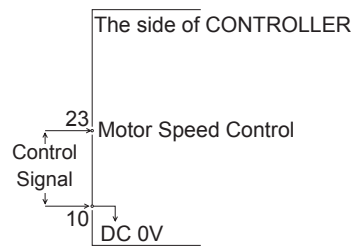

Fig. 31
**When applying the DC 0V to DC+10V, never input more than DC+10V to the CONTROLLER (Fig. 31). This will cause serious damage to the I / O Board in the CONTROLLER.**